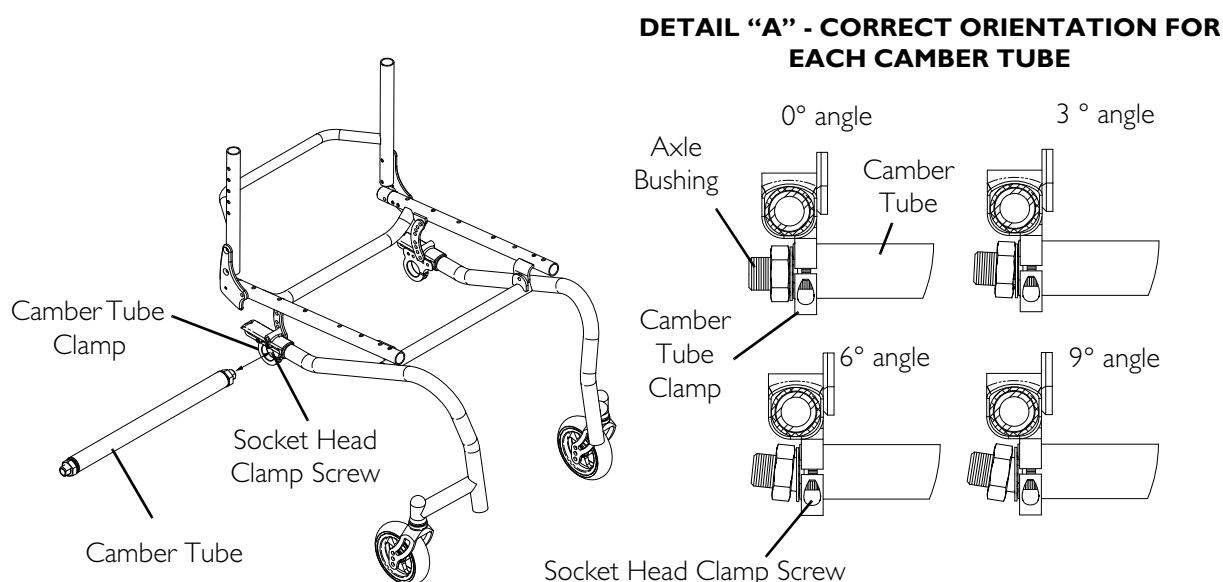
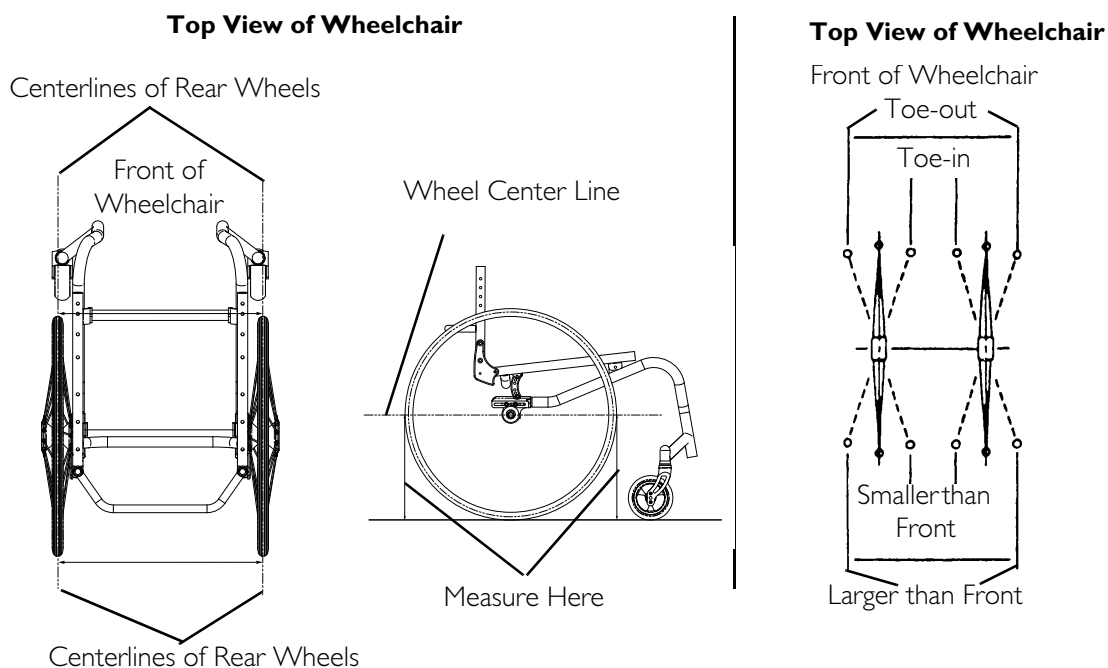

FIGURE 9.11 Adjusting Wheelbase Length, Adjusting Center of Gravity (COG)
FIGURE 9.13 Determining/Setting Toe In/Toe Out
NOTE: For this procedure, refer to FIGURE 9.11.
NOTE: For this procedure, refer to FIGURE 9.11 on page 54 and FIGURE 9.13.
2. Measure the distance between the centerlines at the rear and front of the rear wheels at approximately 12 inches (for 24-inch diameter wheels) from the ground/floor (FIGURE 9.13).
- If the back centerline measurement of the rear wheels is SMALLER than the front centerline measurement of the rear wheels, a TOE-OUT condition exists (FIGURE 9.13).
- If the back centerline measurement of the rear wheels is LARGER than the front centerline measurement of the rear wheels, a TOE-IN condition exists (FIGURE 9.13).
- A. Loosen both mounting socket head clamp screws (FIGURE 9.11).
- B. Rotate the camber tube until front and rear measurement are within $\frac{1}{8}$ -inch (FIGURE 9.11).
- C. Securely tighten both socket head clamp screws (FIGURE 9.11).